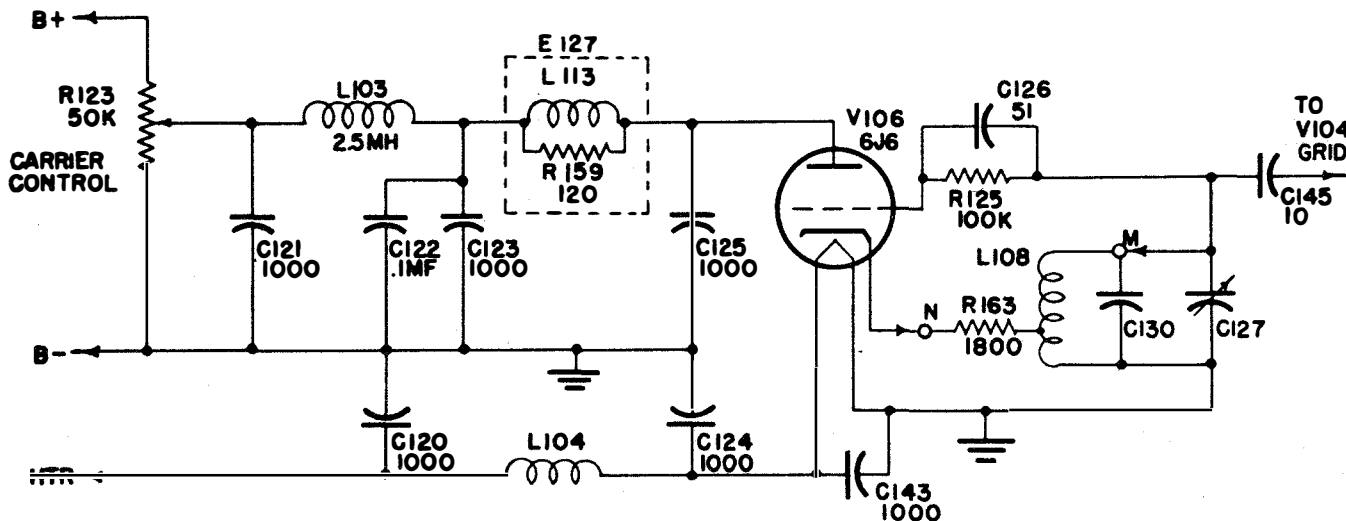

Figure 2-2. Simplified Schematic Diagram of the Carrier Oscillator
(See figure 2-2).
- (1) Selects applicable "inductance-capacitance" combination.
- (2) Selects proper grid leak resistance and blocking capacitance combination for V-106.
- (3) Shorts to ground "inductance-capacitance" combinations not utilized at the selected frequency band.
c. The principal electrical features of the carrier oscillator are shown in the simplified schematic diagram, figure 2-2. For purposes of simplifying the circuit analysis, the mechanics of the FREQUENCY BAND SWITCH (S-105) have not been included in this figure. M and N represent the contact positions of the FREQUENCY BAND SWITCH (S-105) when set at band E. The details of the carrier oscillator are covered in the overall schematic diagram (figure 6-23) near the end of Section 6.
d. The oscillator tube (V-106) is a type 6J6 dual triode with both sections connected in parallel. The frequency of the oscillations is determined by the L-C constant of the resonant tank circuit. The main tuning capacitor (C-127) is of the straight line frequency type, designed to give a linear frequency change with rotation except at the extreme ends of the frequency range. All frequency bands, with the exception of the highest band (H), can be calibrated by adjustment of the associated trimmer capacitor and variable iron core inductance. If necessary, band H can be calibrated by varying the spacing between the turns of L-105. This is discussed in Section 6, par. 9.